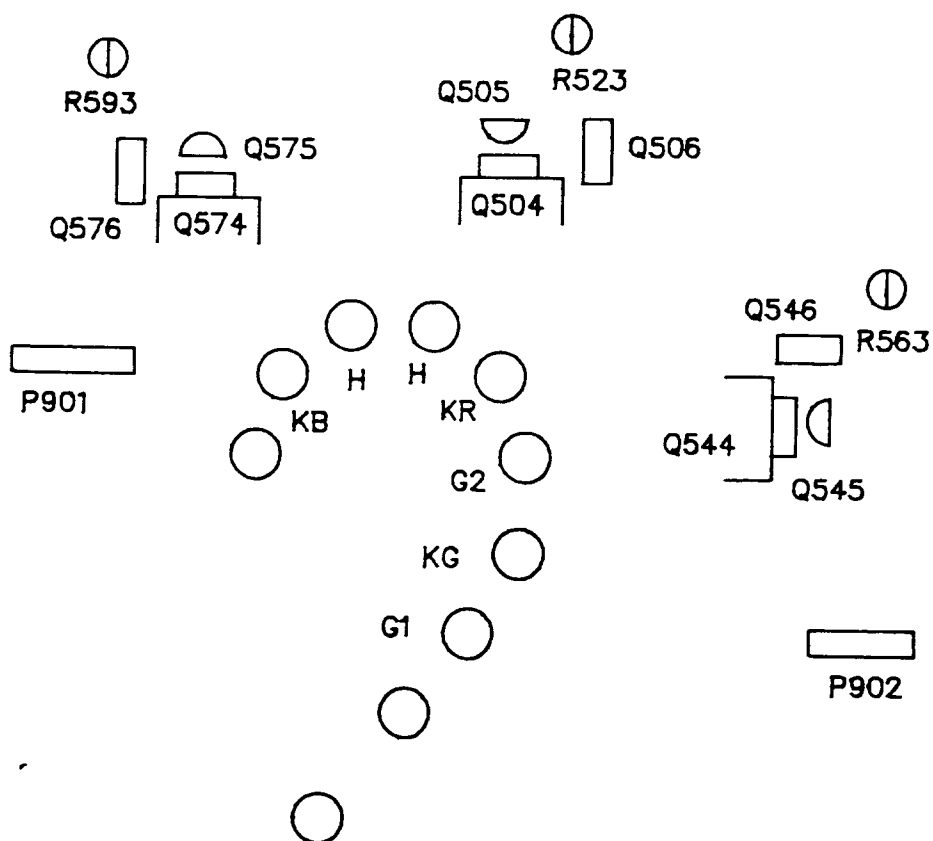

Fig 4-3 PCB-CRT DRIVE adjustment and test location
- (3) PCB-CRT DRIVE adjustment and test location. (See Fig 4-3)